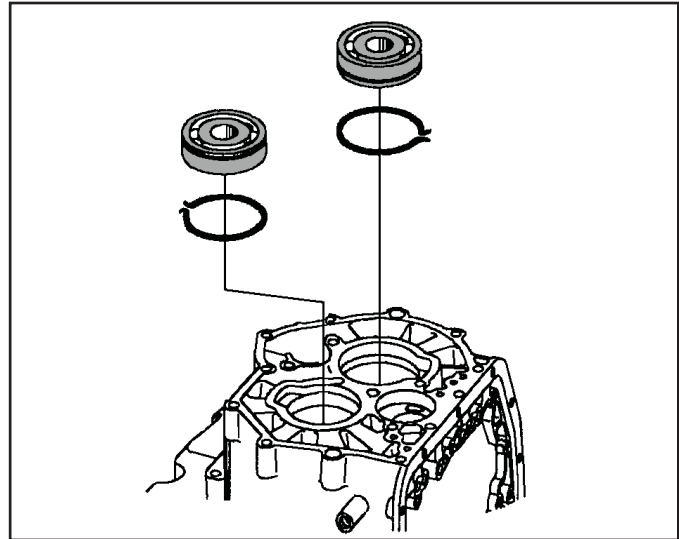

Figure 192
7. Install the input and output shaft case bearings into the case. Using a suitable pair of snap ring pliers, expand the snap ring and slide the bearing into the bearing bores. Snap ring grooves on the bearing should be **UP** on the output shaft bearing and **DOWN** on the input shaft bearing (See Figure 192).